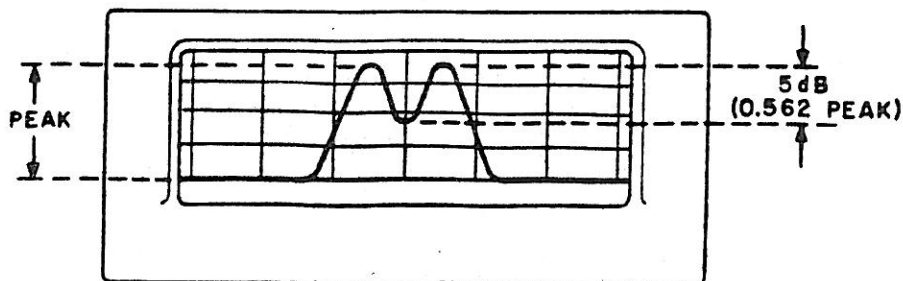

Figure A-2. Typical Response, Signal Monitor Resolution Test
- (7) Decrease the signal generator output frequency until the pip on the CRT is centered behind the graticule mark to the extreme left of the CRT. Record the frequency counter indication.
- (8) Increase the output frequency until the pip is centered behind the graticule mark to the extreme right of the CRT. Record the frequency counter indication.
- (9) Subtract the frequency recorded in step 7 from the frequency recorded in step 8 to determine the maximum sweep width. The frequency difference should be in the range of 4.0 MHz to 4.4 MHz.
- (10) To verify the proper sweep linearity, the frequency recorded in step 7 should be in the range of 19.200 MHz to 19.600 MHz; in step 8 it should be in the range of 23.200 MHz to 23.600 MHz.
- (11) Turn the signal monitor GAIN control maximum counterclockwise. Turn the MARKER switch ON.
- (12) Use the CENTER FREQ control to align the marker pip behind the middle graticule mark.
- (13) Use the SWEEP WIDTH control to expand the base of the marker pip until it is two divisions wide.
- (14) Rotate the signal monitor GAIN control clockwise until the signal generator pip is the same height as the marker pip. Turn the marker off and then on again to observe the two heights.
- (15) Adjust the signal generator frequency for a zero beat with the marker.
- (16) The indication on the frequency counter at zero beat should be 21.4 MHz  $\pm$ 3 kHz. This assures that the marker oscillator frequency is within tolerance. Record the frequency for use in steps 17 and 19.
- (17) With the 21.4 MHz marker two divisions wide at the base, tune the signal generator frequency until the dip between the 21.4 MHz marker and the signal generator signal is 0.5 of the peak signals as shown in Figure A-2.
- (18) Record the frequency counter indication.
- (19) Subtract the frequency recorded in step 16 and the frequency recorded in step 17. This difference should be less than 10 kHz to assure that the signal monitor has proper resolution.